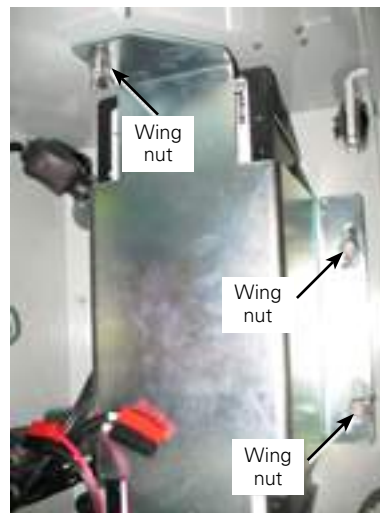

Figure 43. Remove battery bracket wing nuts
3. Remove the battery bracket two wing nuts located in front of battery (Figure 43). Save the wing nuts for re-use.
4. Remove the wing nut for the battery bracket [located on the right cabinet wall] (Figure 43). Save the wing nut for re-use.